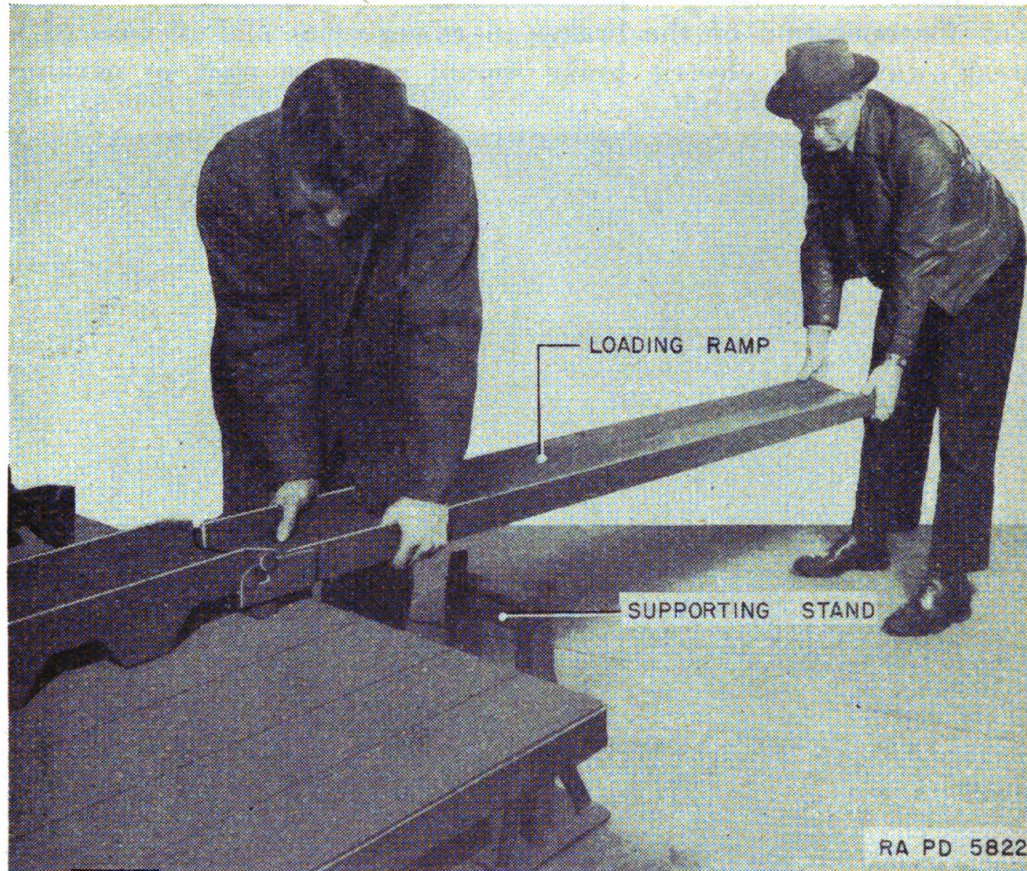

FIGURE 6.—Channel loading ramp.
**10. Loading ramp.**—A loading ramp and a supporting stand (fig. 6) are furnished with each trailer to aid in loading. The ramp